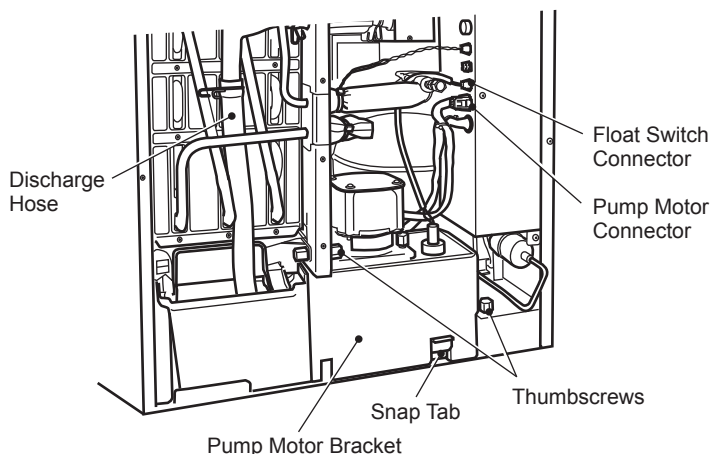

Fig. 2
- 2) Loosen the two thumbscrews securing the pump motor bracket. See Fig. 2.
Be sure to let the discharge hose pass behind the copper tube and connect it securely in position. See Fig. 2. Otherwise, the discharge hose may be caught in the front insulation, leading to improper results.